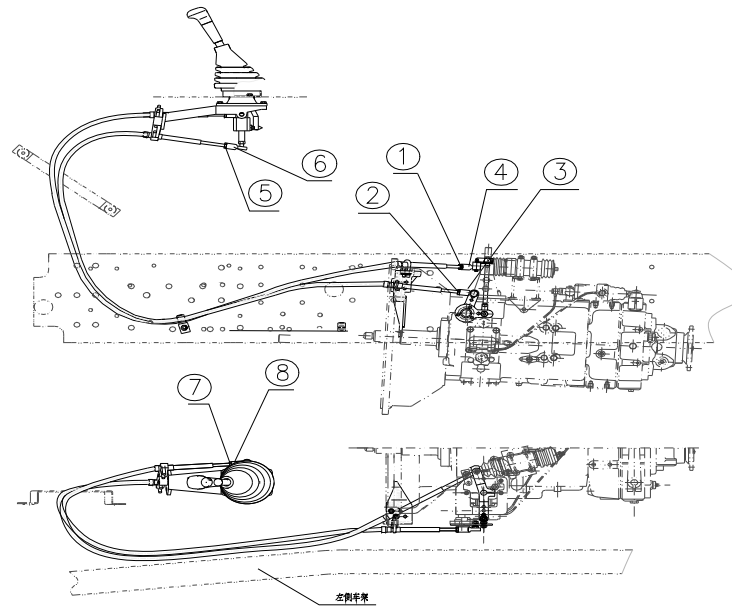

Fig. 7
- (4) After the installation, place the gear shift lever in the neutral position and measure if the dimensions of flexible shaft at the transmission end comply with the requirements. If not, adjust the connection length of the flexible shaft spherical hinge and the push rod tread so as to adjust the installation dimensions of the flexible shaft.
- (5) Then select and shift the gears to check if all the gears can be engaged. If a gear is difficult to be selected and shifted, check and adjust the installation dimensions of the gear select flexible shaft at the transmission end in accordance with the previous point.
- (6) The specific adjustment of the flexible shaft is as shown in Fig. 7: